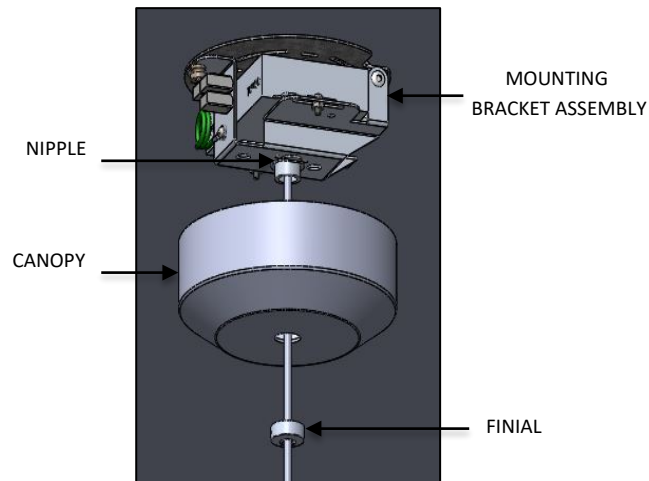

FIG. 13 – FINIAL INSTALLATION
10. Raise CANOPY and secure to ceiling by threading the FINIAL to the NIPPLE (available in MOUNTING BRACKET ASSEMBLY) as shown below in FIG. 13.